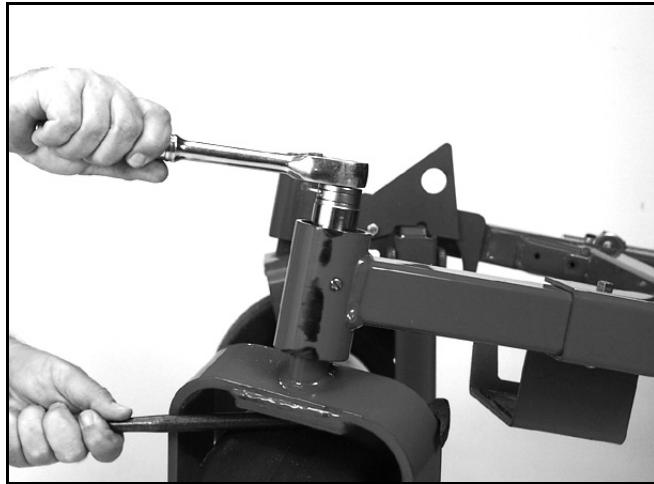

Figure 108
2. Hold the caster assembly stationary and loosen the bearing adjustment nut (Figure 108).